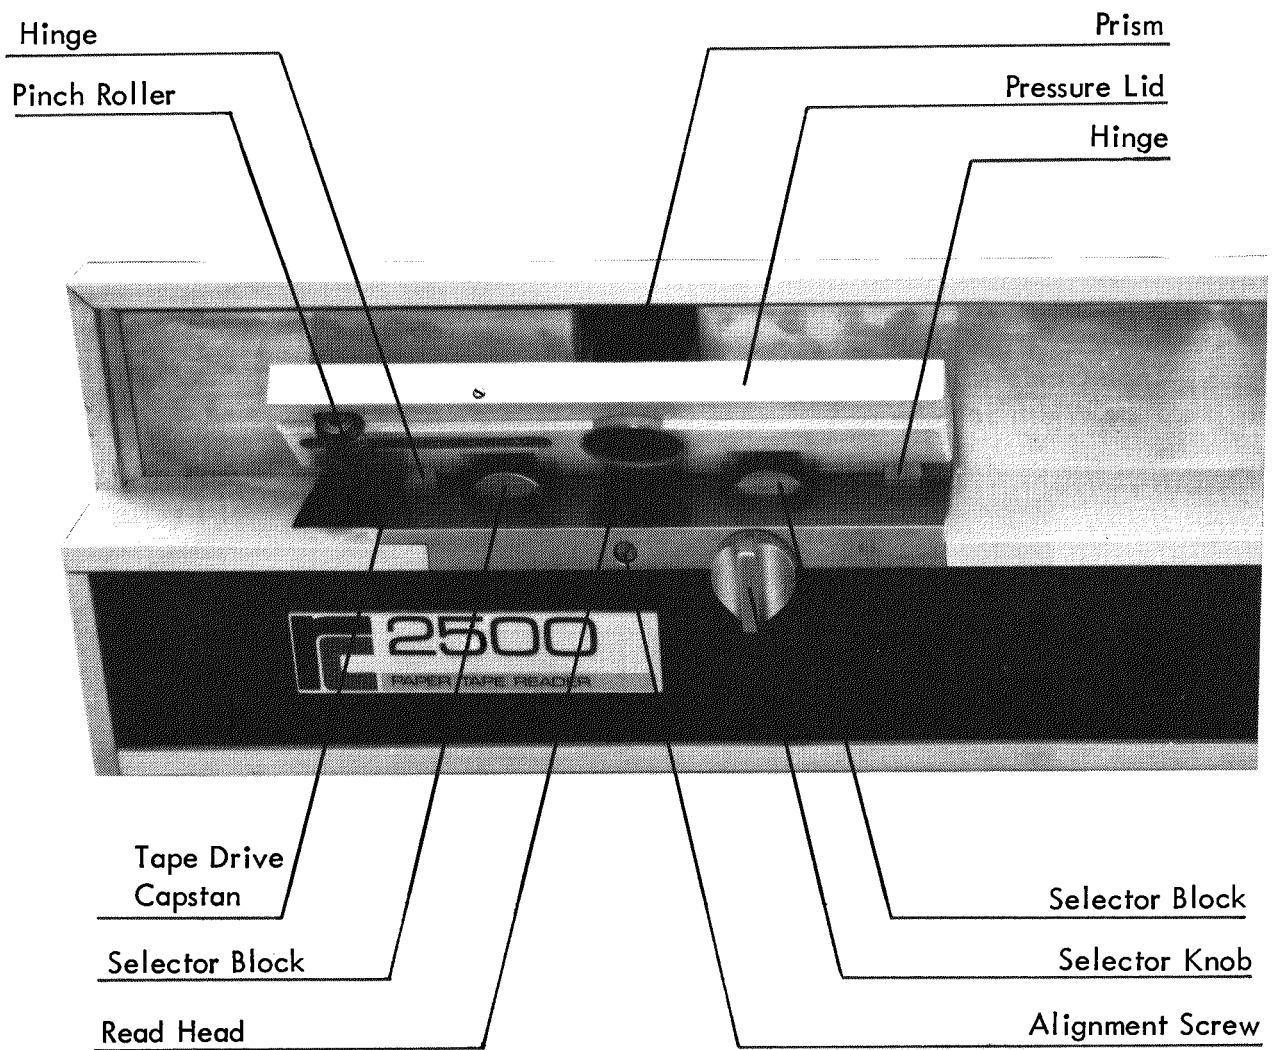

Fig. 3
2.1 Tape Guide with Tape Width Selector (Fig. 3)
2.3 Pressure Lid (Fig. 3)